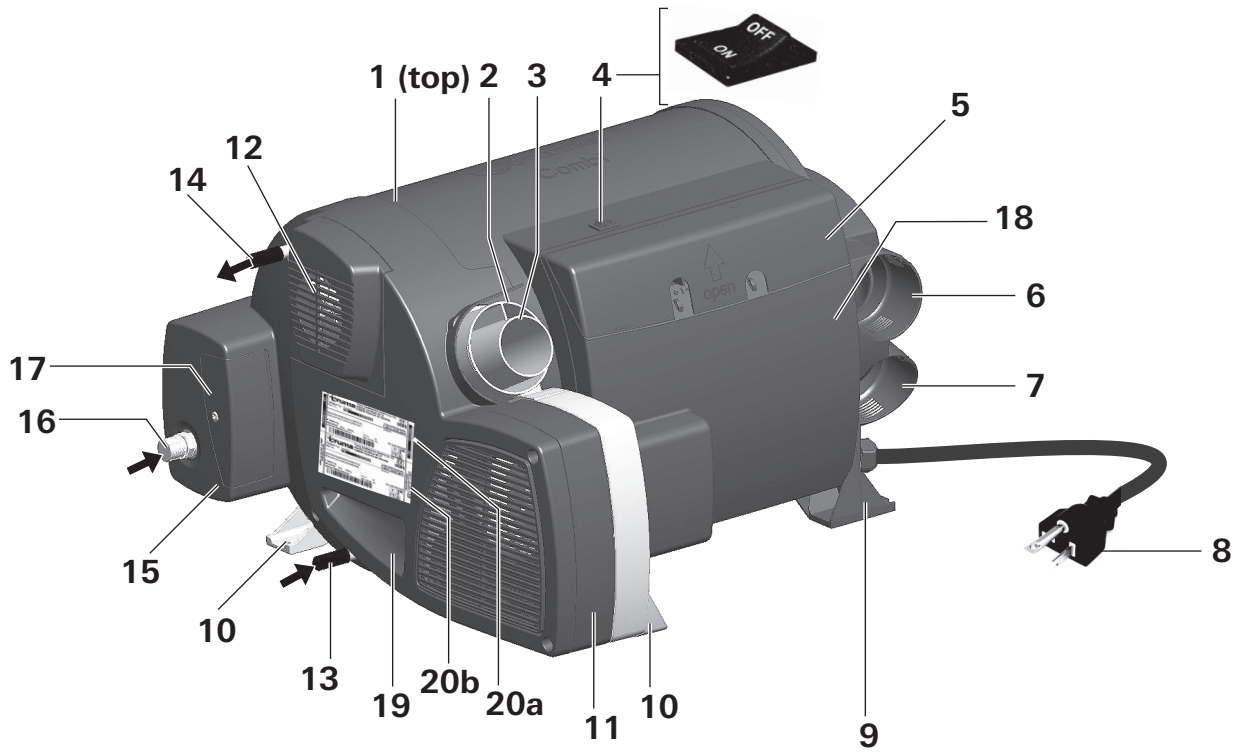
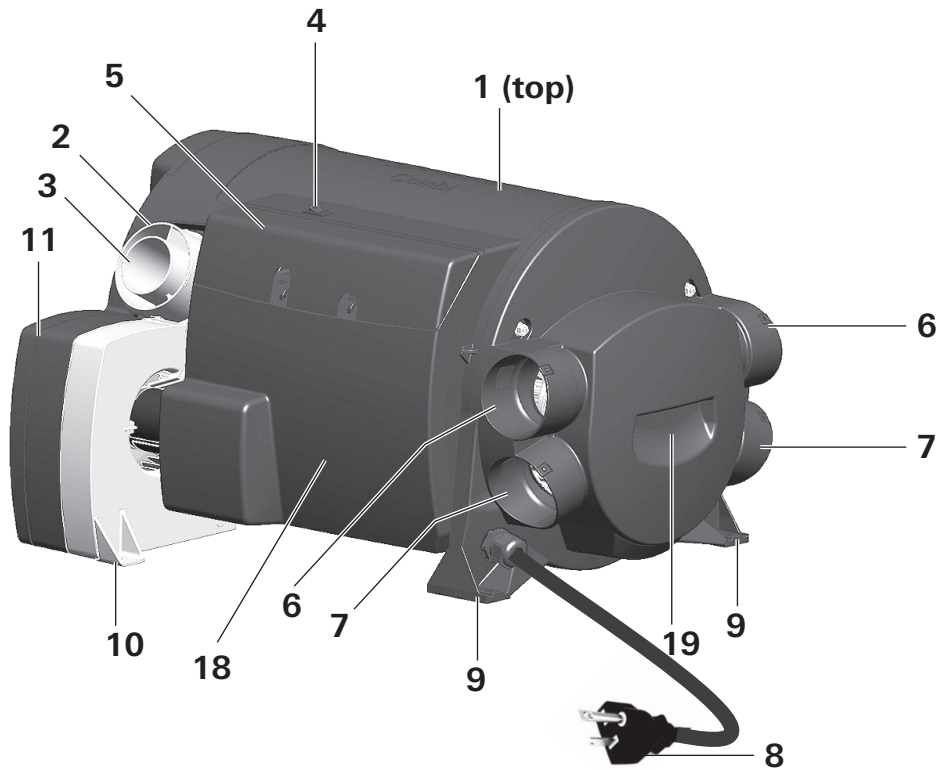

Fig. 2
Fig. 3
- Always use the recessed grips (Fig. 2 – 19 and Fig. 3 – 19) to grab, lift or handle the Combi furnace. Never lift or grab the furnace by any of its delicate exterior components.
- It must be possible to access the switch for the gas shut-off valve (see Fig. 2 – 4).